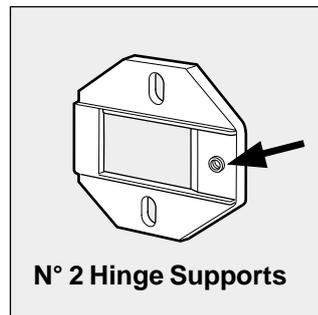

Fig. 8
- Mount the hinge supports onto the face of the machine, positioning the hole indicated by the arrow in Fig. 8 towards the inside of the face and using the type **C** screws.